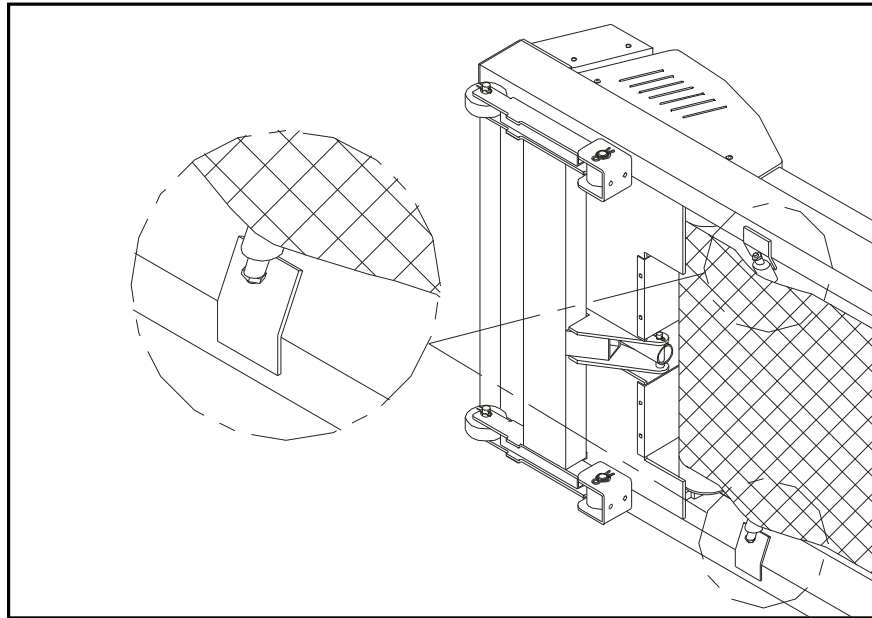

Fig.1
2. Lay the treadmill on its side. Make sure the running belt is position in the tracks of the two BELT ALIGNMENT ROLLER underside of the machine (see Fig. 1).